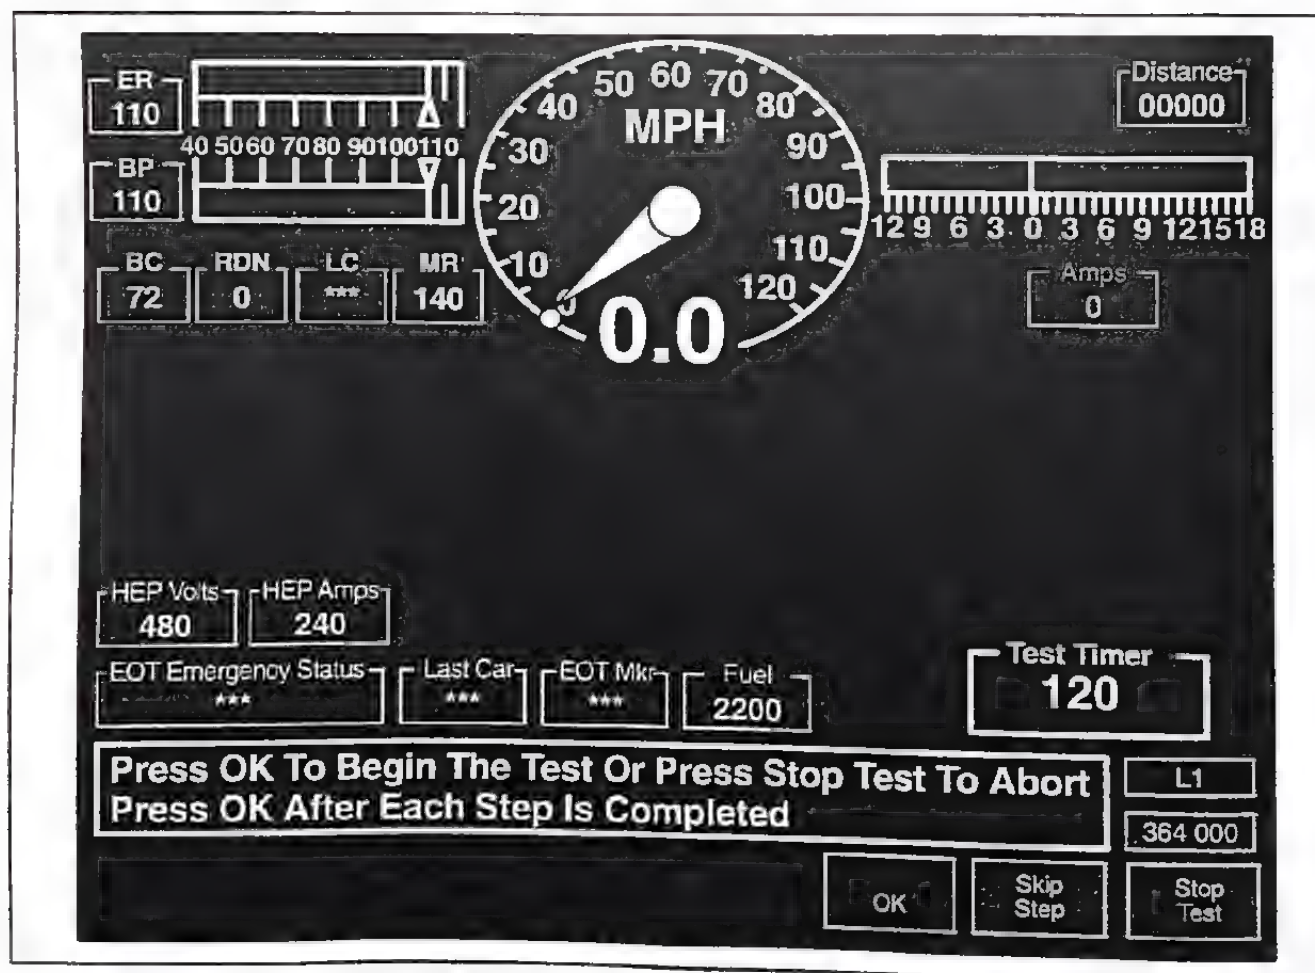

FIG. 17. LOCOMOTIVE DEPARTURE TEST SCREEN (364 000). E-42591.
1. Pressing key position F4 (Air Brake Dep Test) from the Operator Test Screens (360 000, Fig. 65) will display screen 364 000 (Fig. 17). This key is only active if the unit speed is equal or below 0.5 MPH. This key is not available on the Crew Display. Proceed with test as follows: